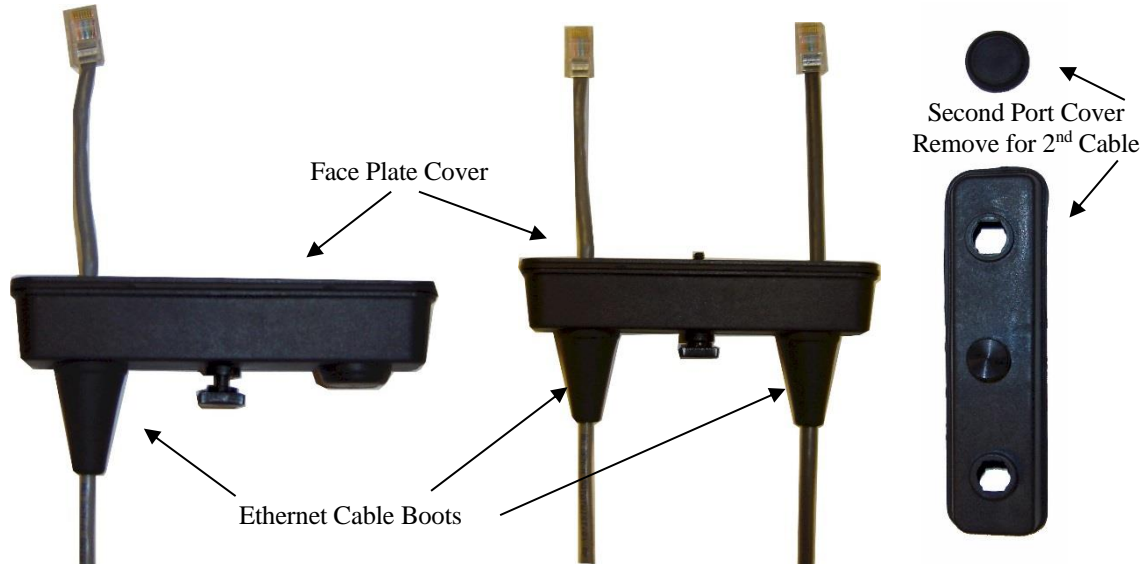

Figure 10: Ethernet Cable Routing
8. Feed the CAT-5e Ethernet connector(s) through the Face Plate Cover and secure the Ethernet Cable Boot to the cover. Reference Figure 10.